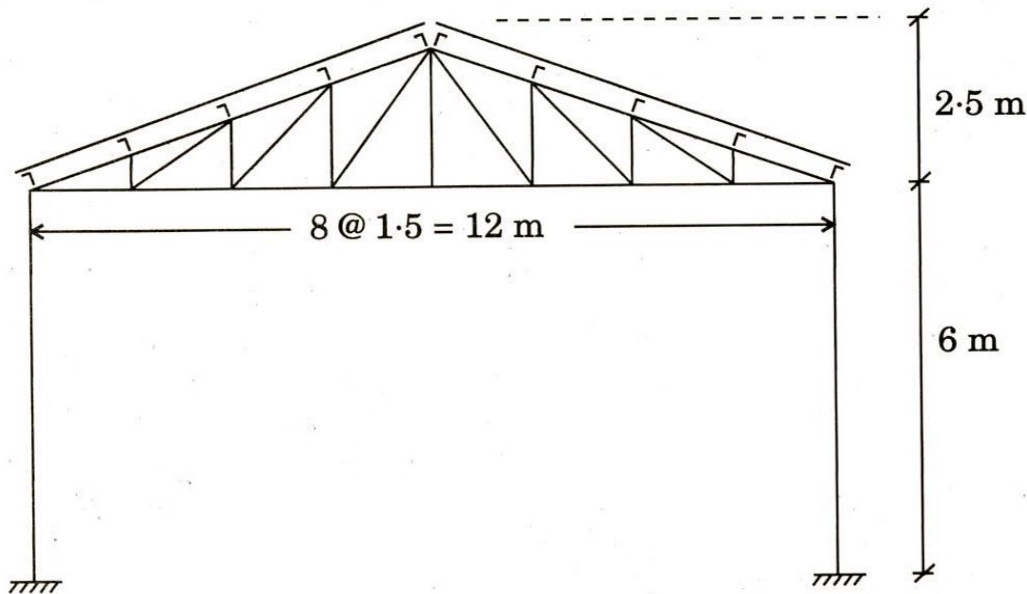

Figure 13
- (b) A factory shed is to be constructed using truss having a span of 12 m. The spacing of the truss is 4 m. Galvanised iron sheets are to be placed over purlins located at the nodes as shown in Figure 13. Determine the design load at the nodes due to live load and wind load for an intermediate truss. Assume design wind pressure = 1500 N/m². $C_{pe} = -0.7$ (for wind angle 90°), $C_{pi} = \pm 0.2$. Loads are to be shown in the diagram separately. 20